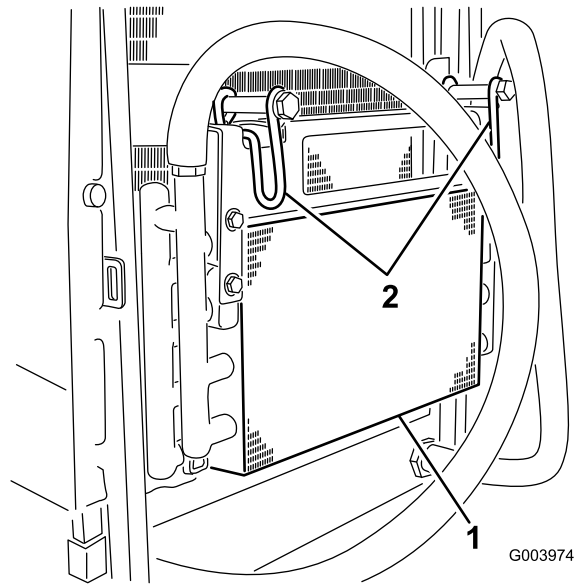

Figure 46
5. Pivot the latches inward to release the oil cooler (Figure 46).